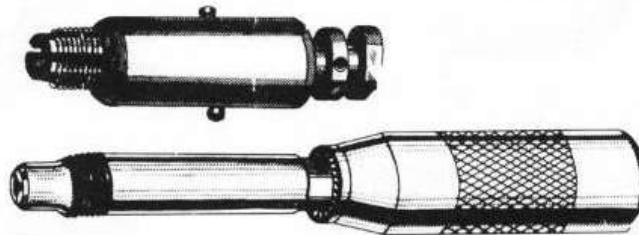

Figure 52
- |(l) Use the Expanding and Staking Tool P/N 64593 (Figure 52) to stake the new installed 0.010 in. oversized Heli-Coil[®] insert securely in the spark plug hole as follows: